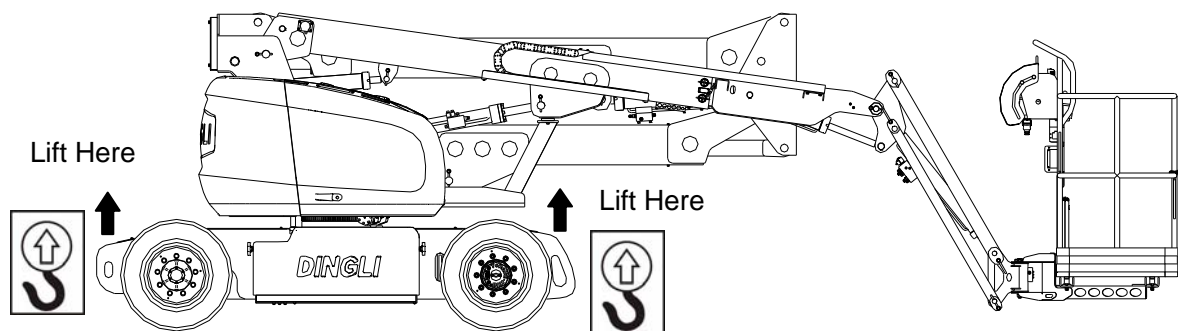
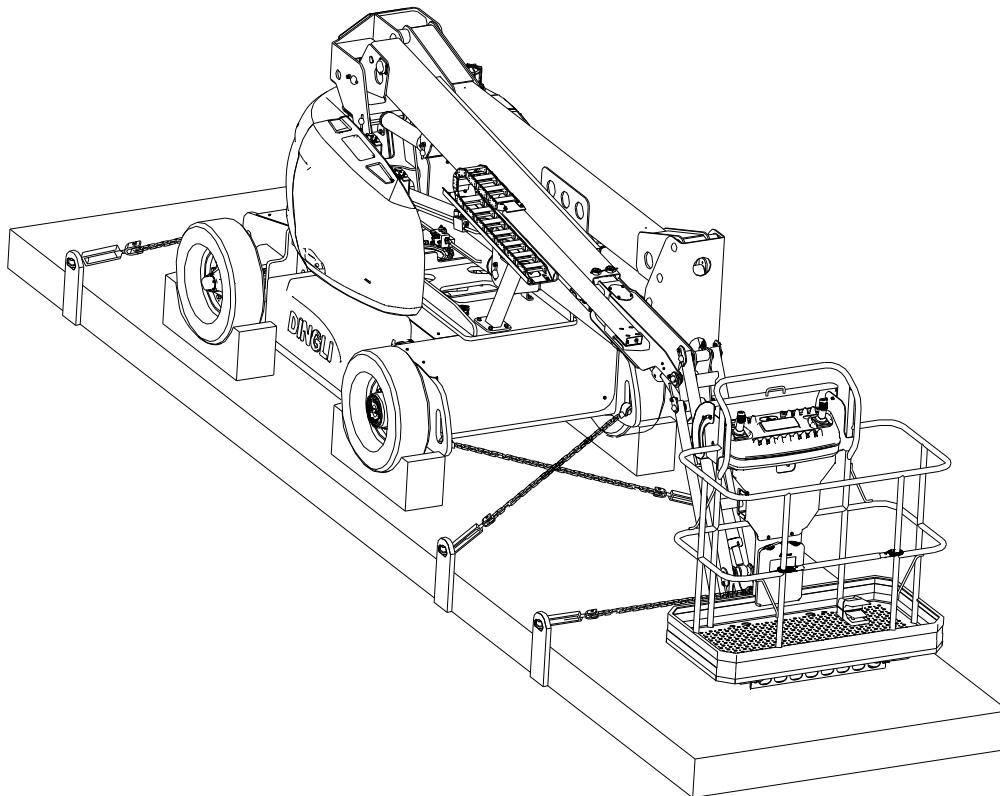

Figure 5-3 Lifting Diagram
Figure 5-4 Tie Down Diagram
that the lifting devices are attached only to the designated lifting eyes. (See Figure 5-3. Lifting Diagram)
**WHEN TRANSPORTING MACHINE, BOOM MUST BE IN THE STOWED MODE AND MACHINE SECURELY TIED DOWN TO TRUCK OR TRAILER DECK. FOUR TIE DOWN EYES ARE PROVIDED IN THE FRAME SLAB, ONE AT EACH CORNER OF THE MACHINE. (SEE FIGURE 5-3. AND FIGURE 5-4.)**